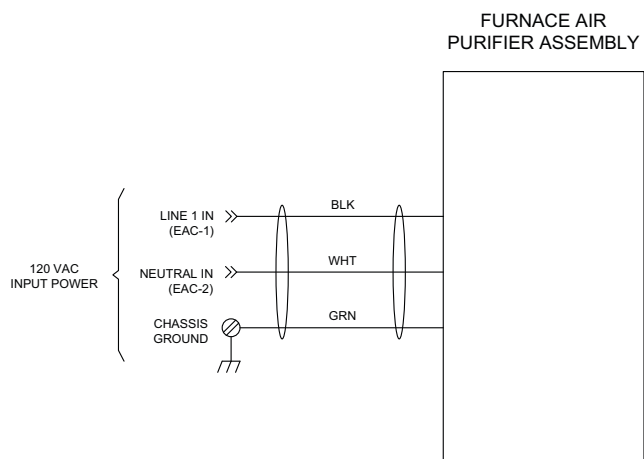

Fig. 11 - Furnace Installation
2. Attach the quick connect terminals on the wires exiting the power conduit assembly to the furnace EAC-1 and EAC-2 spade connections. Attach the ground ring terminal on the third wire to furnace chassis ground. See Fig. 11 and 12.